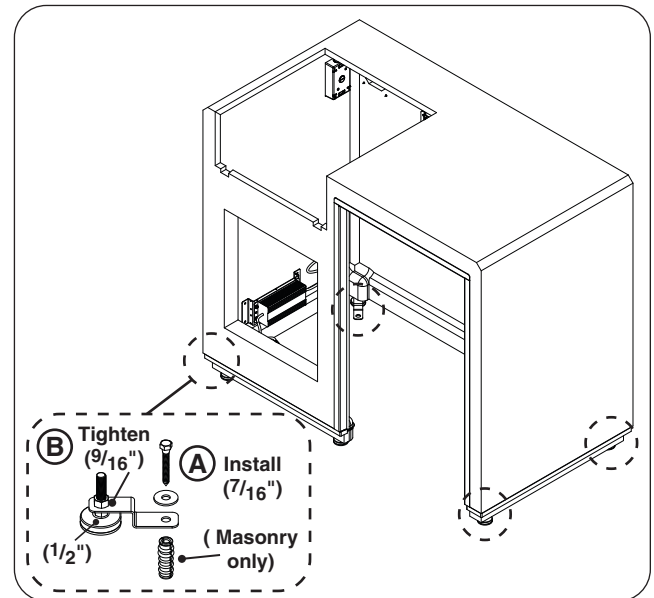

Fig. 8-2 Mount island
3. Secure the island to the floor using the 4 pre-installed mounting brackets. Use a $\frac{7}{16}$ " open end wrench and the supplied mounting hardware as appropriate. See Fig. 8-2, A.
Finish by tightening down the brackets. Hold a leveler in place (below bracket) with a $\frac{1}{2}$ " open end wrench, and tighten the nut (above bracket) using a $\frac{9}{16}$ " open end wrench. See Fig. 8-2, B.